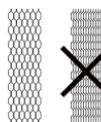

Fig. 10
- When assembled correctly, the stacked plates form a honeycomb pattern (Fig. 10).